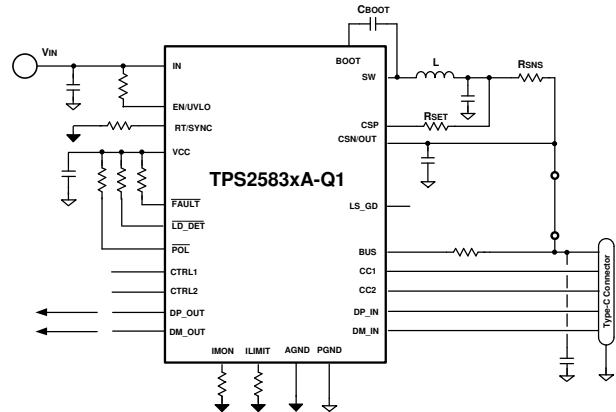

图 10-17. TPS2583xA-Q1 Buck Average Current Limit
• Buck Average Current Limit 图 10-17: